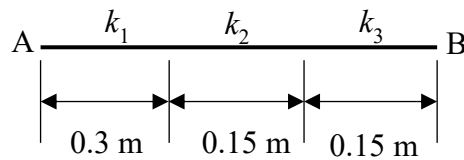

Fig. 1 Composite slab
3. Consider a composite slab (1-D), as shown in Fig. 1 whose right end (B) has constant temperature 293 K and left end (A) is exposed to a hot fluid of temperature 1073 K. The